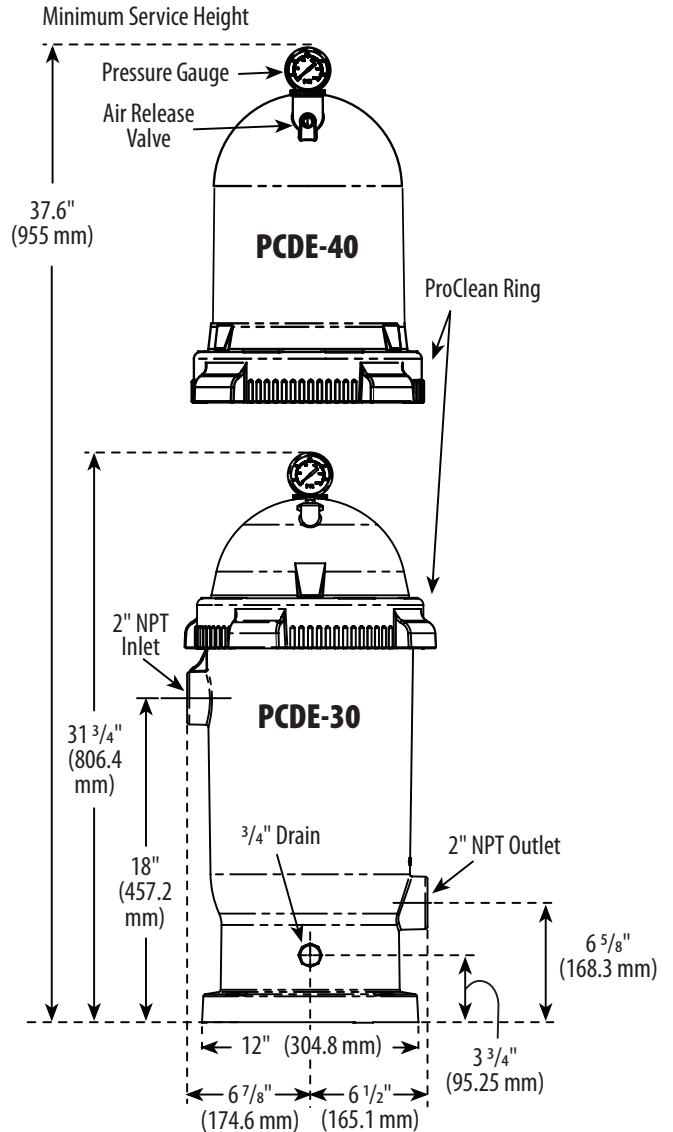

Figure 1 - Filter Dimensions in Inches (mm)
- Provide space and lighting for easy access for routine maintenance (see Figure 1 for space requirements).